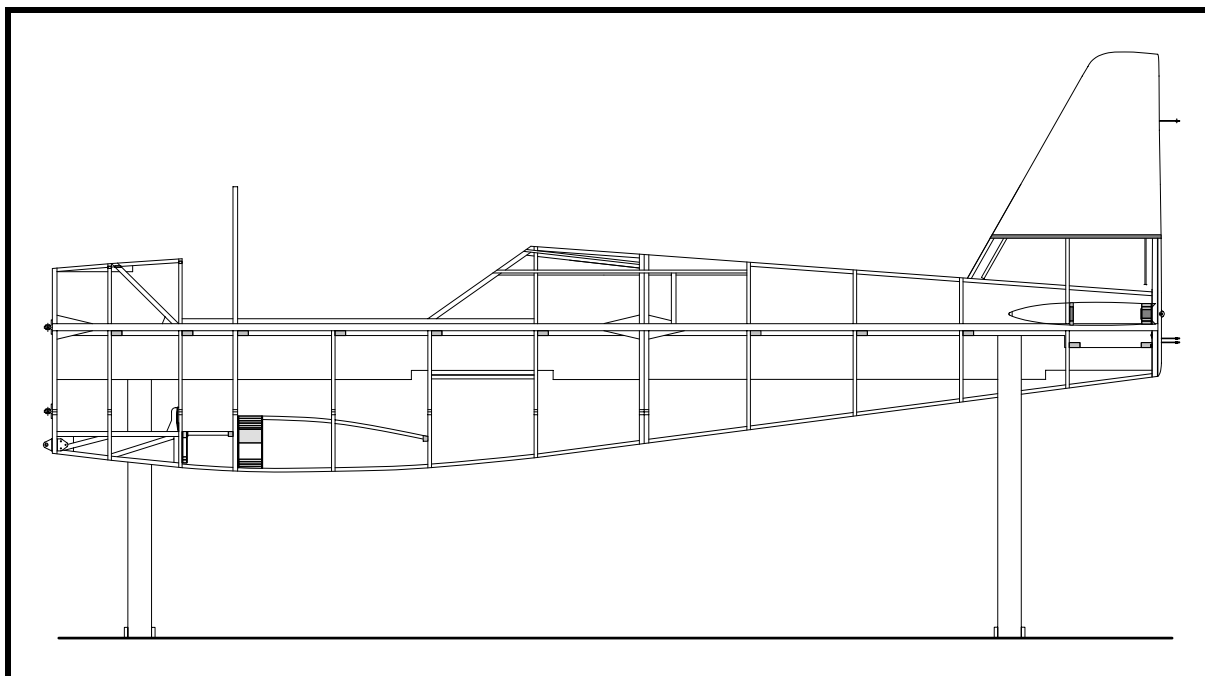

Figure 43
- ❑ Install the bob-tailed 35x150 corner block on the top of the side longeron. See Figure 43.
- ❑ Install the corner blocks on the forward and aft face of frame No. 8 on the left and right 20x10 stringers. These blocks need only be 20x100. See Figure 43.